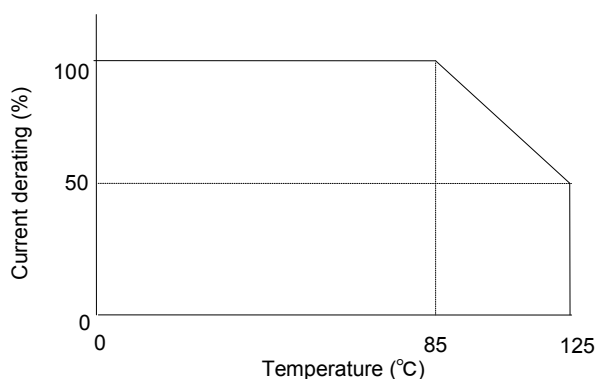

Figure 1. Derating curve
*1 Derating of rated current shown by Figure 1 should be applied.